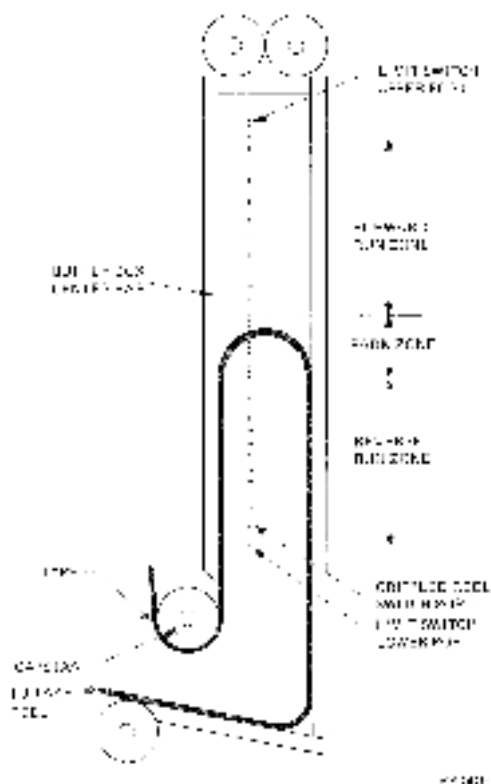

Figure 3-13 8070 Column Park Zone (Take-up Column Shown)
8. Manually rotate the supply reel clockwise to put tape into the supply buffer column. Rotate the reel so the tape forms a loop and the end of the loop is in the middle of the park zone. The park zone is the series of 13 small holes in the center of the buffer column (Figure 3-13). Hold the reel and apply masking tape to the outer flange and the transport to prevent the loop from being pulled down the buffer column by the vacuum.